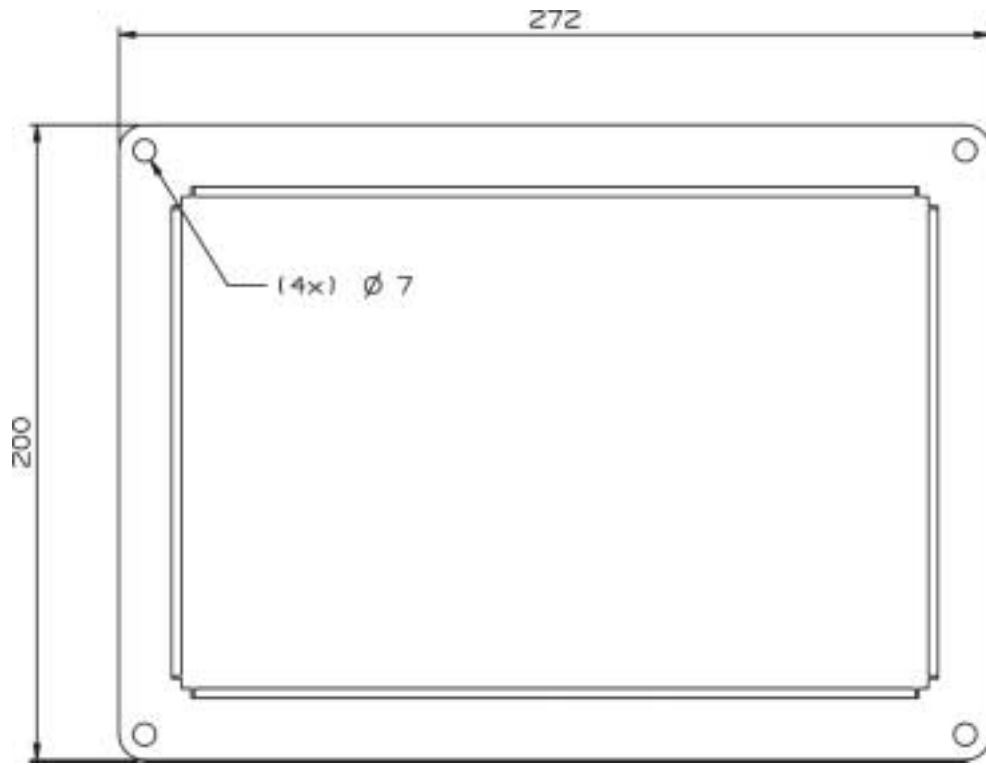

Figure 11 Panelmount frame dimensions
- 1) Determine where to install the R4 Display, see Figure 11 for dimensions. Make sure that there is enough depth behind the panel, see Figure 14.